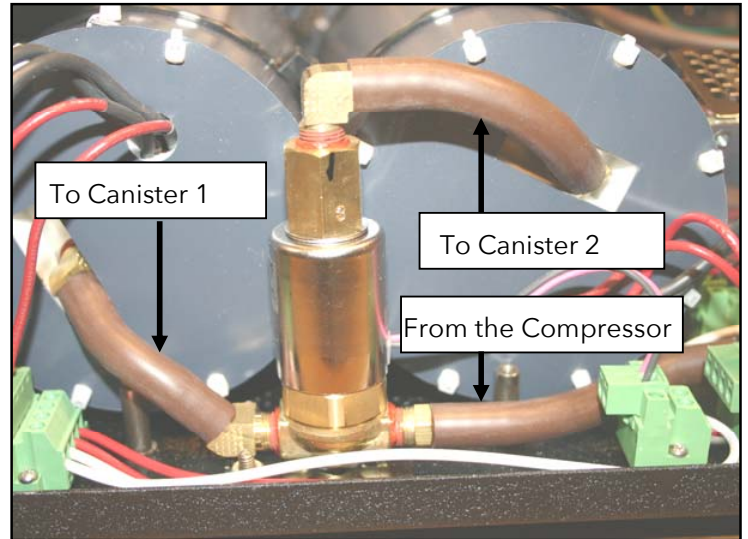

Figure 4. THE INLET SOLENOID MODULE AIR HOSE CONNECTIONS.
7. Reconnect the three air hoses to the corresponding fittings on the new module from which they were removed from the original module in step 4. Refer to Figure 4. The top hose runs to Canister 2. The lower left hose runs to Canister 1. The lower right hose runs from the compressor. Make sure each hose fits tightly onto the fitting.